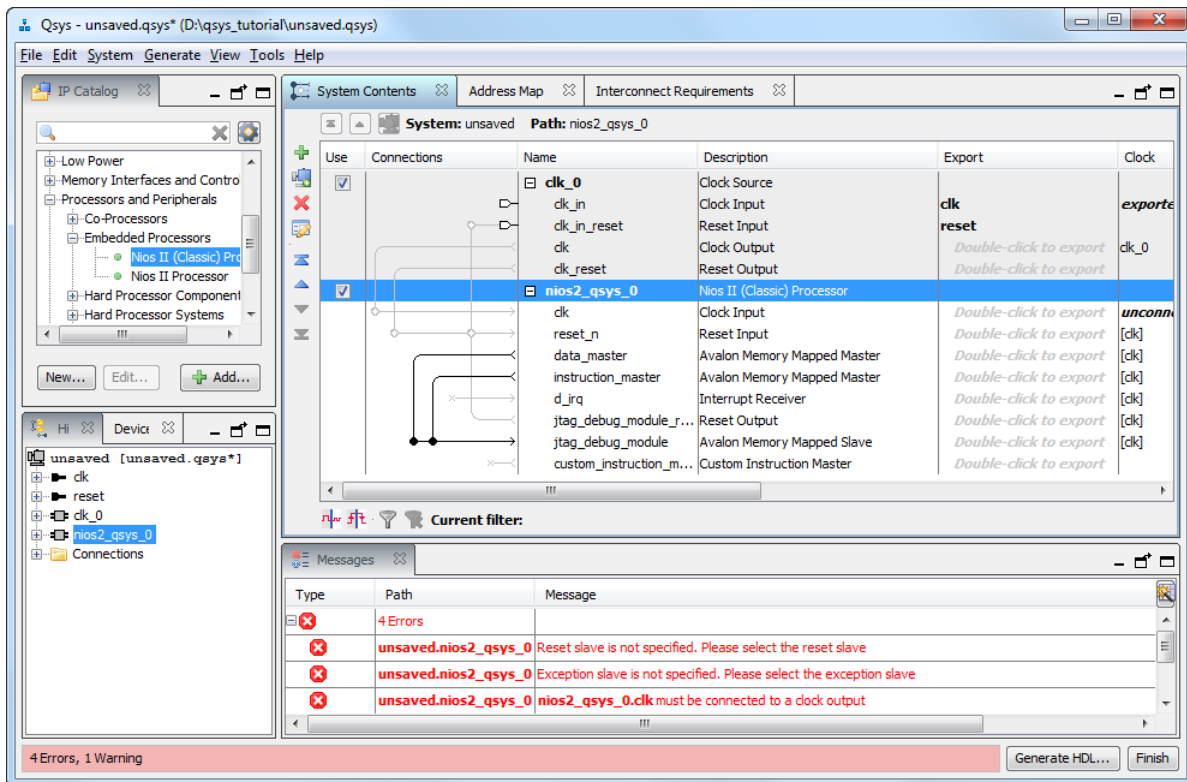

Figure 6. Inclusion of the Nios II processor in the design.
- Choose Nios II/e which is the economy version of the processor. This version is available for use without a paid license. The Nios II processor has *reset* and *interrupt* inputs. When one of these inputs is activated, the processor starts executing the instructions stored at memory addresses known as *reset vector* and *interrupt vector*, respectively. Since we have not yet included any memory components in our design, the Qsys tool will display corresponding error messages. Ignore these messages as we will provide the necessary information later. Click Finish to return to the main Qsys window, which now shows the Nios II processor specified as indicated in Figure 6.